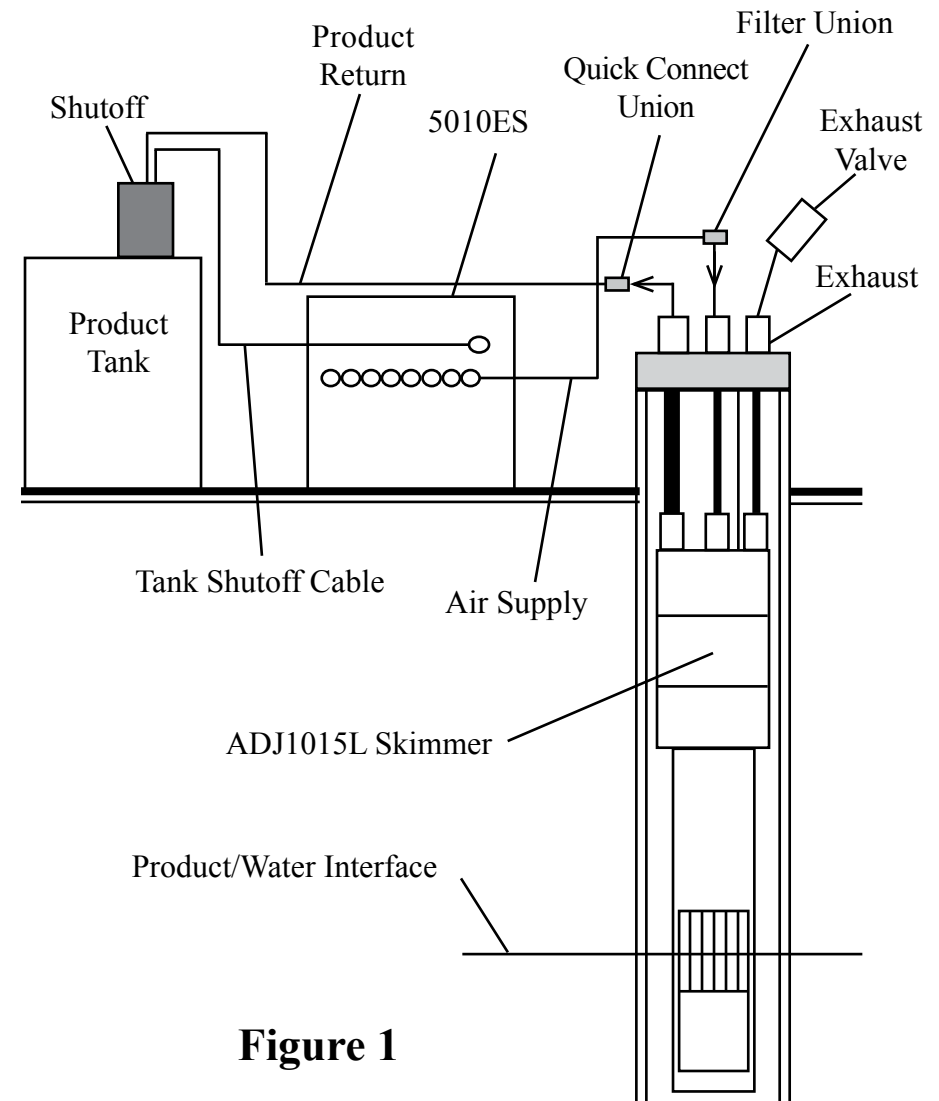
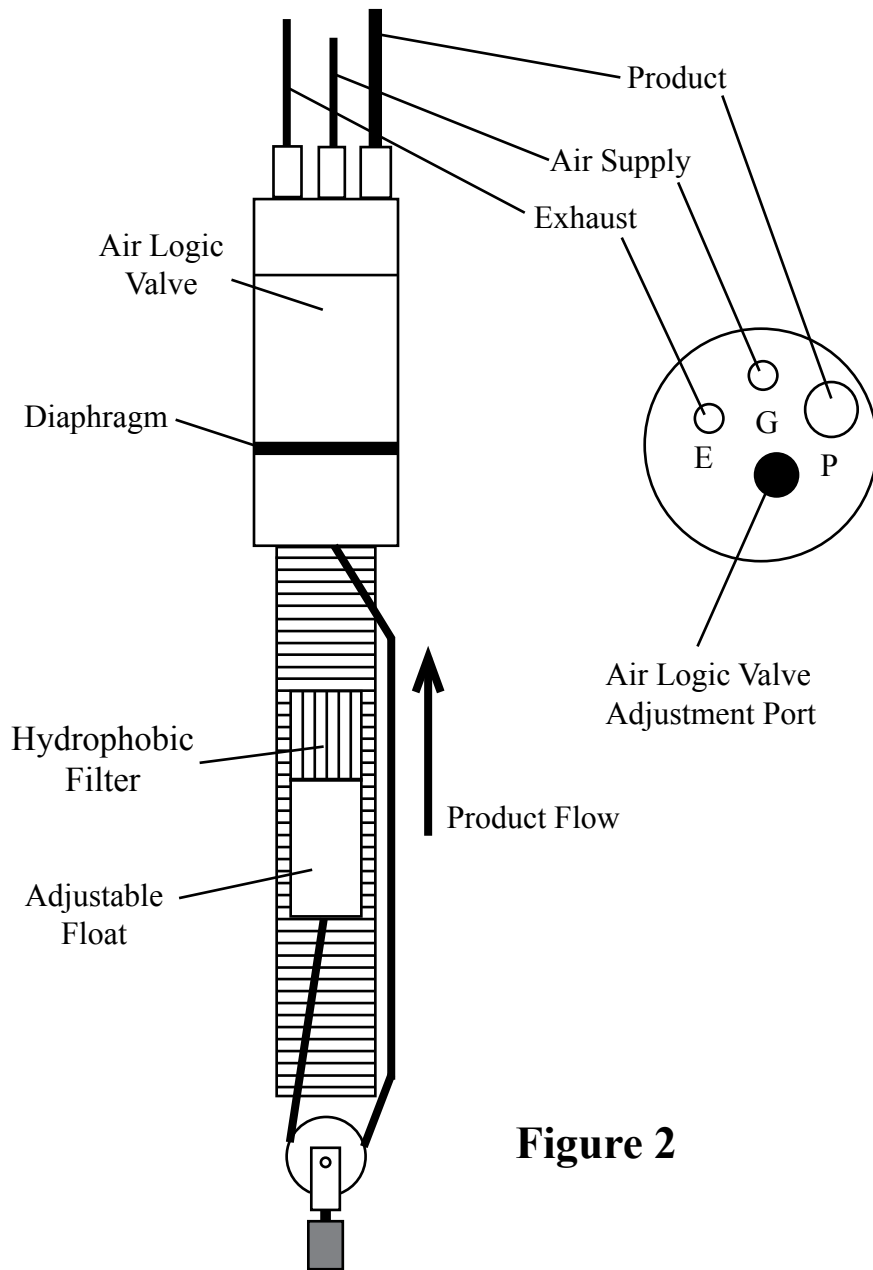

Figure 1
Figure 2
The system (Figure 1) relates to a floating LNAPL recovery system for wells four inches in diameter and larger. This system includes: an intrinsically safe ADJ1015L pneumatic Smart Skimmer, with an adjustable float (Figure 2), which removes LNAPL up to 200 feet deep; and a programmable Control Station Model 5010ES which operates up to 8 skimmers intermittently, records run time, and has a high level tank shutoff assembly.
STEP 1. Place programmable Control Station Model 5010ES (Figure 1) near the air source, power source, and holding tank if possible. **CAUTION:** The Model 5010ES is NOT intrinsically safe. If this controller must operate in a CLASS I area, use the XITECH Model 2550ES CLASS I Controller instead.
STEP 2. Install holding tank shutoff assembly into holding tank ( a 2" standard pipe inlet will be required in the holding tank). The level of product in the holding tank can be set by raising or lowering the liquid level float switch rod. Plug the high level shutoff switch cable connector into the left end of the controller (Figure 1).
STEP 3. Attach power line from the AC power source to the right end of the controller (Figure 1). Turn on the controller power switch. If the red "Product Tank Full" light stays on, you have a problem with tank shutoff wiring. Turn off the power switch and re-check the tank shutoff wiring. If the light continues to stay on, call the factory.
STEP 7. Position the skimmer and well cap on the ground near the well. **NOTE:** If the skimmer is over 60 feet deep, use a vented design skimmer. Cut a length of 3/8" OD air supply tubing to cover the distance from the top of the well down to water/product interface, plus 5 feet. Slide enough tubing through the well cap and attach the end of the tubing to the top of the skimmer tube fitting labeled "G" (Figure 2). If the product thickness is greater than 1 foot, position the center of the skimmer screen 1 foot below top of product. If the product thickness is less than 1 foot, position the center of the skimmer screen at the water/product interface.
STEP 8. Cut a length of 1/2" OD product tubing same length as the air supply line. Install 1/2" OD product tubing through the well cap tube fitting labeled "P" (Figure 2). Slide enough tubing through the well cap and attach the end of the tubing to the top of the skimmer tube fitting labeled "P". **CAUTION:** Do not kink the tubing.